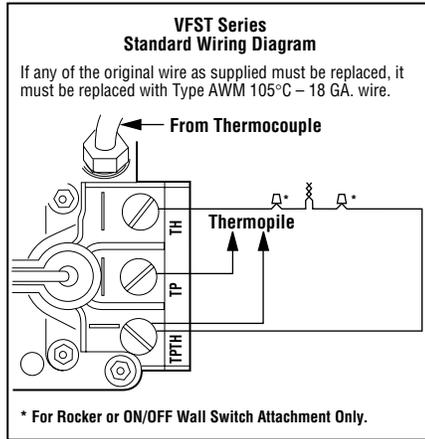
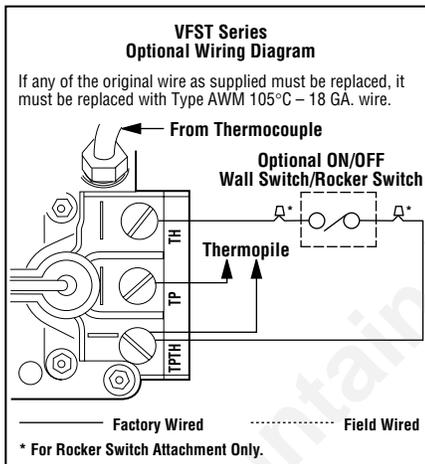

Figure 9
Figure 10
Step 6. Installing the Optional Remote Wall Switch – The standard millivolt system comes from the factory wired as shown in Figure 9. Select a convenient location for the remote wall switch and connect the wiring to the appliance (Figure 10).
An optional wall switch kit can be installed along with all vent-free appliances. The kit consists of a standard UL wall switch with cover plate. This kit provides for remote (wall) operation of the appliance. Replace the wall switch and cover plate of this kit with the components of the RCK and you can have true remote control of your vent-free appliance, turning it on and off from your favorite easy chair. The wall switch kit should be installed along with the appliance. Refer to Figure 10 and Step 6 for detailed installation instructions.